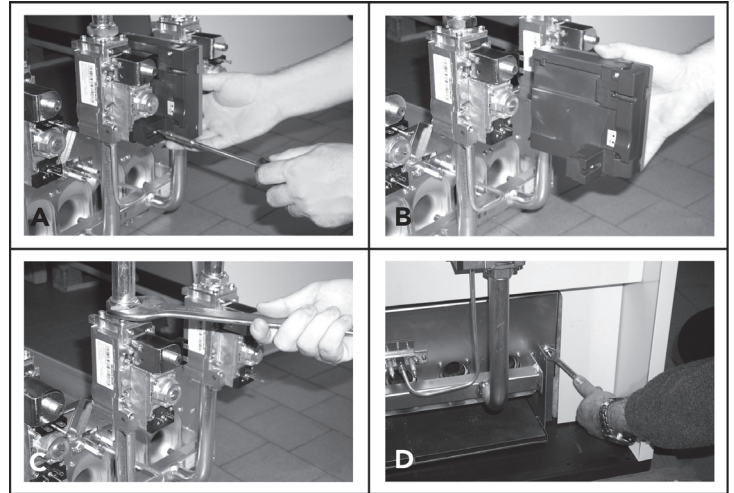

fig. 9 - Burner removal and cleaning
- Undo the two screws securing the electronic flame controllers to the gas valve (detail A - fig. 9) and remove them from the gas valves (detail B - fig. 9).
- Undo the nuts securing the gas supply pipe ahead of the gas valves (detail C - fig. 9).
- Undo the two nuts fixing the combustion chamber door to the cast iron elements of the boiler (detail D - fig. 9)